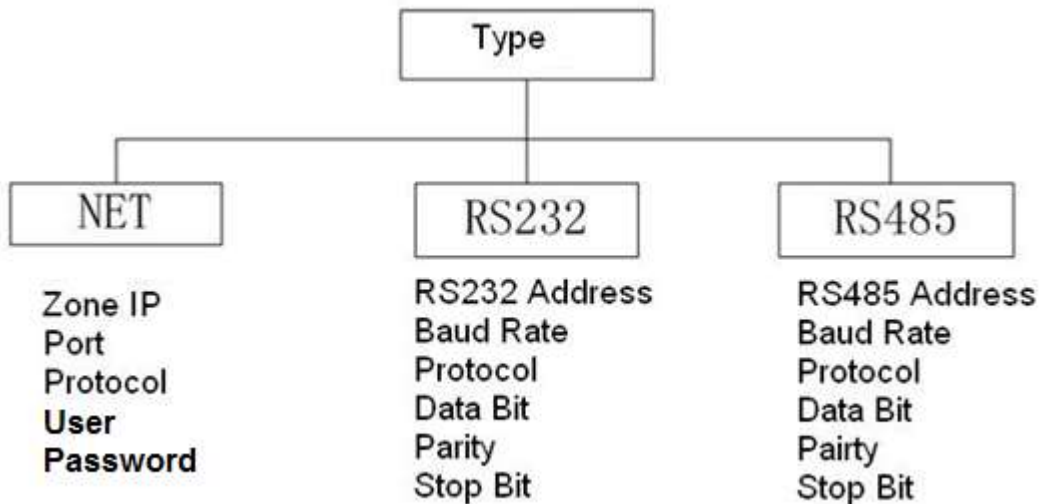

Figure 2-10
- Link: The options include: NET/RS232/RS485. Please select the type and set the corresponding parameters. The interface is shown as in Figure 2-10.